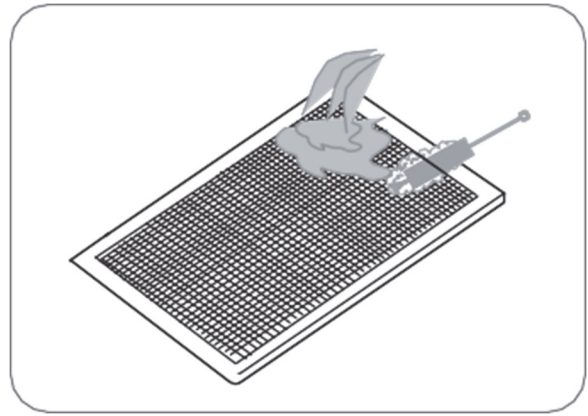

Figure 71
2. Shake off filter dust. Using a brush, wash it thoroughly with water. Figure 71 (After washing dry the filter)